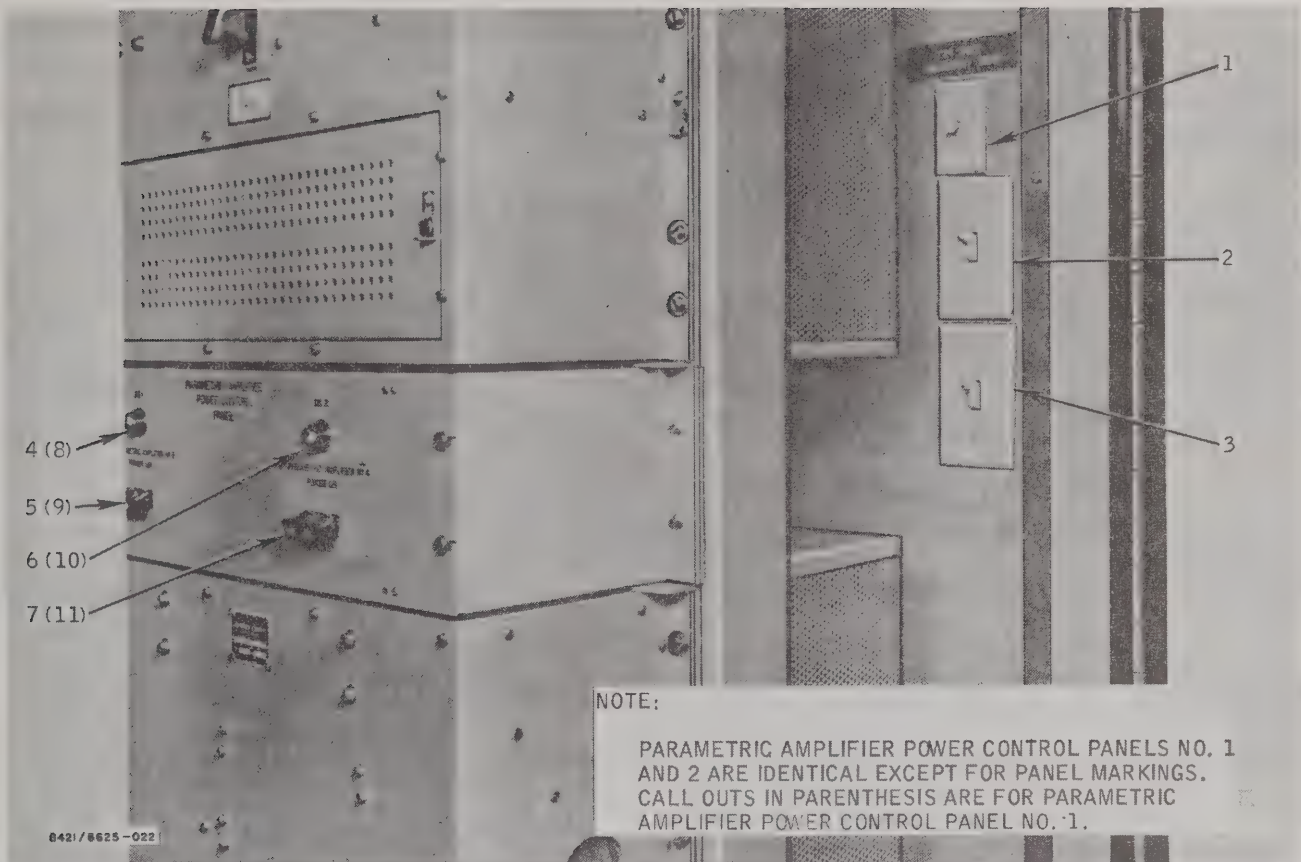

Figure 3-3. Van Curbside Wall, Power Control System, Controls and Indicators (Configuration C only)
Table 3-3. Power Amplifier Van, Curbside Wall, Power Control System, Controls and Indicators (fig. 3-3)
b. Throw the two van light switches (fig. 3-3) to the ON position in order to illuminate the two rows of overhead lights.